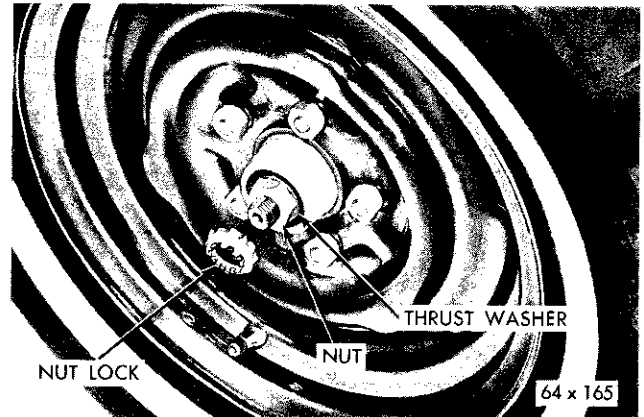

Fig. 4—Front Wheel Bearing Adjustment
(1) Tighten the wheel bearing adjusting nut to 90 inch-pounds while rotating the wheel.
(2) Position the nut lock (Fig. 4) on the nut with